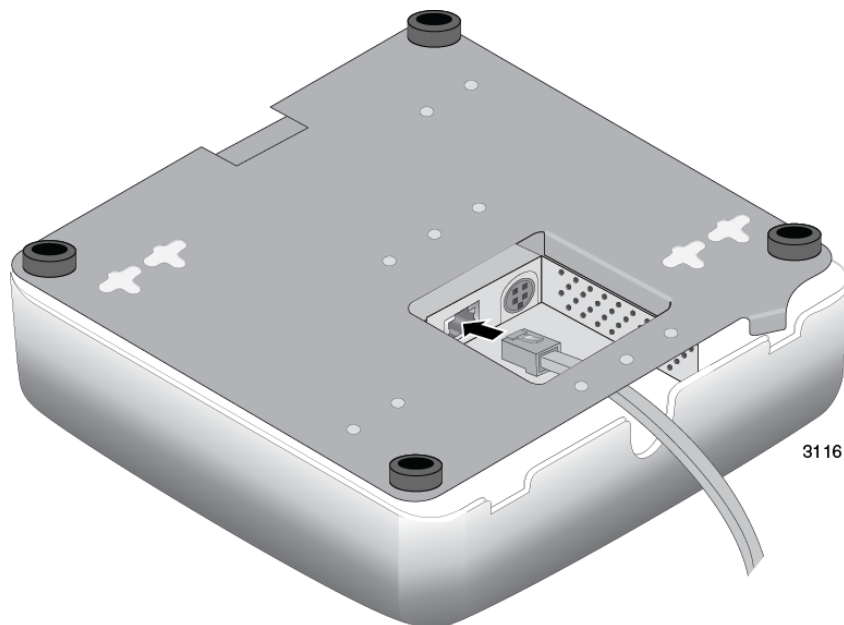

Figure 4. Connecting the Network Cable for Table or Desktop Installation
3. Route a network cable through the notch in the cover and under the bottom panel, and connect it to the LAN port on the access point. Refer to Figure 4 on page 30. The specifications of the cable are listed in Table 2 on page 22.